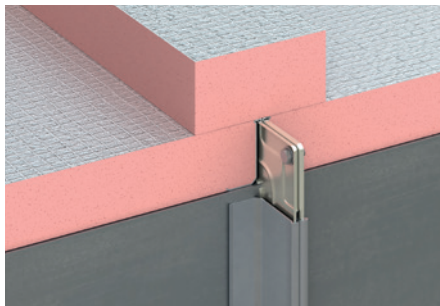

Figure 29: Flange is smaller than the thickness of insulation
- When the thickness of insulation is not sufficient to give at least 5 mm cover 4, flanges should be covered with additional pre-formed sheets of insulation material as shown in Figure 29 below.